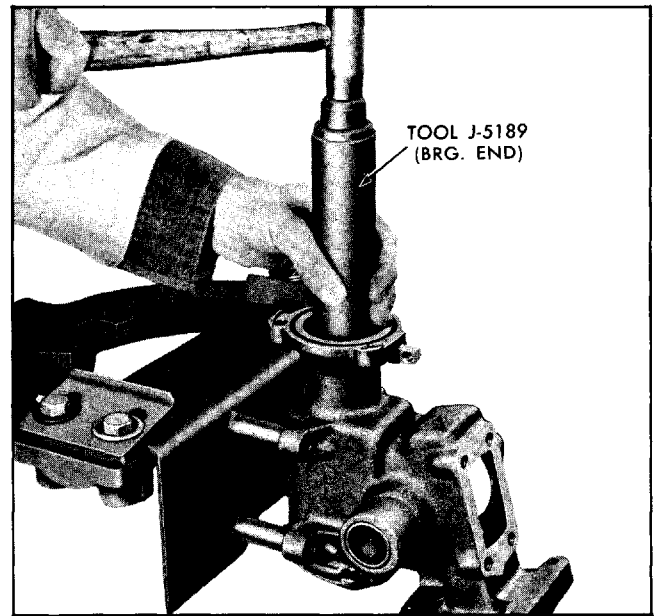

Fig. 9-38 Installing Seal in Housing Upper Flange
1. Install new seal in housing upper flange using tool J-5189 (Fig. 9-38). Use soft hammer to prevent damage to tool.